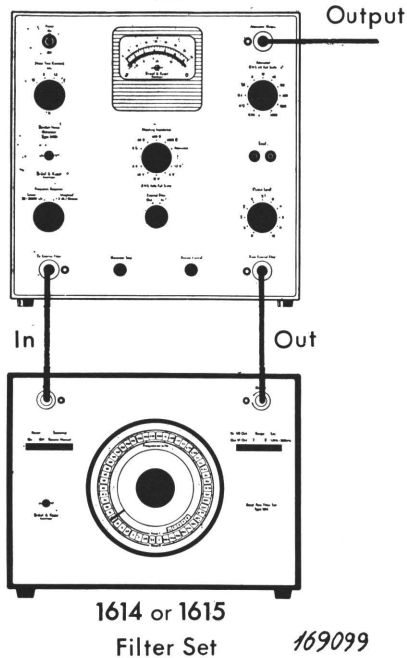

Fig.4.6 Filter Set Type 1614/15 combined with Random Noise Generator Type 1402
- (I) Connect up circuit as shown. Fig.4.6.
- (II) Set control knobs on Filter Set as follows: